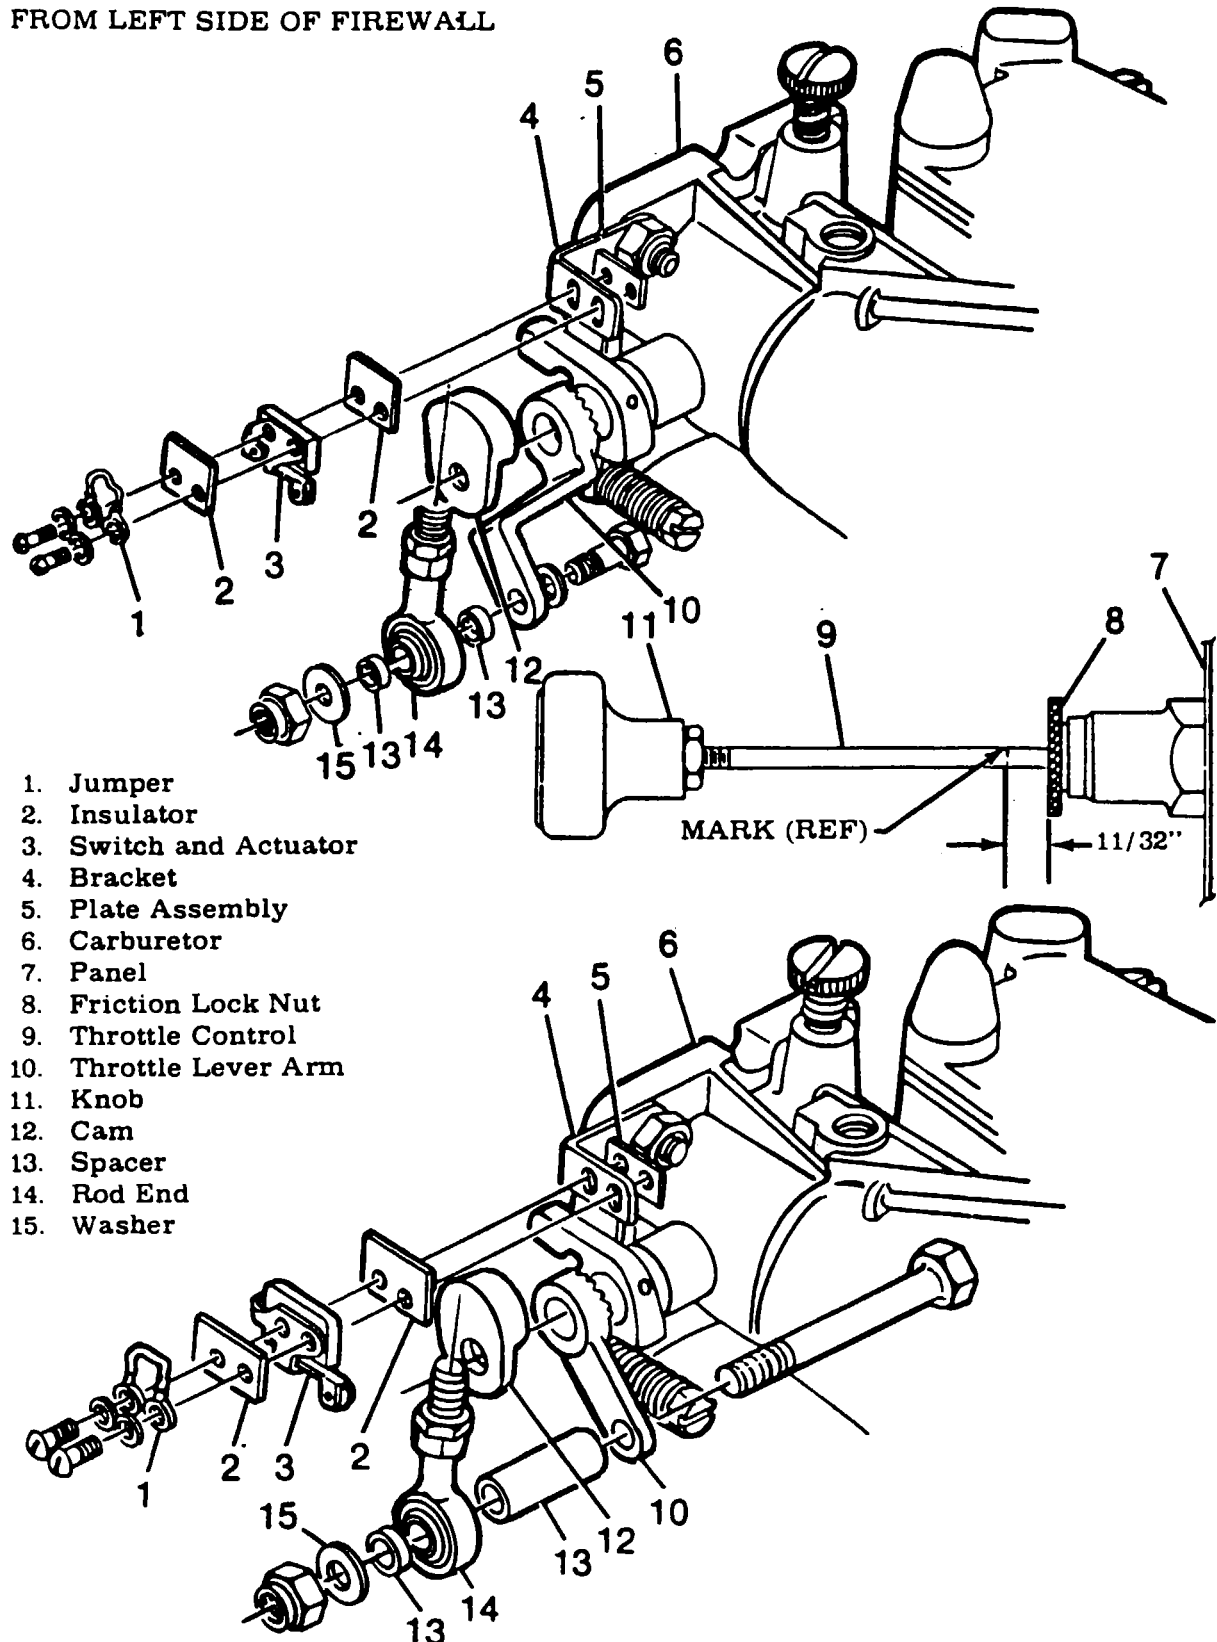

Figure 5-7. Rigging Throttle-Operated Gear Warning Horn Microswitch
- 5-44. **RIGGING THROTTLE-OPERATED GEAR WARNING HORN MICROSWITCH.** (See figure 5-7.)